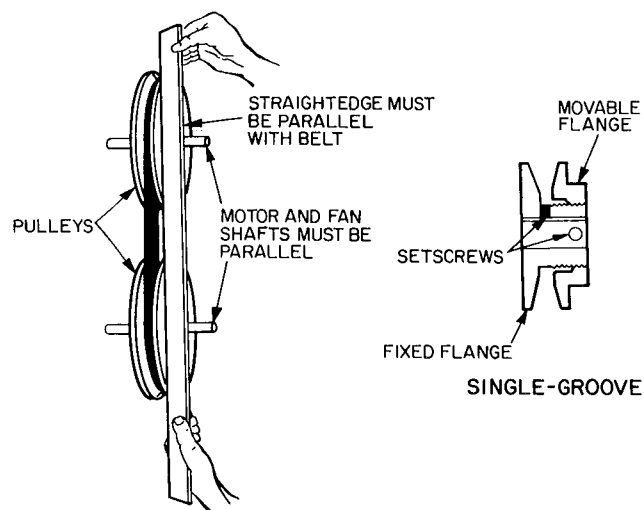

Fig. 23 – Evaporator-Fan Pulley Adjustment
- Loosen movable pulley flange setscrew (see Fig. 23).